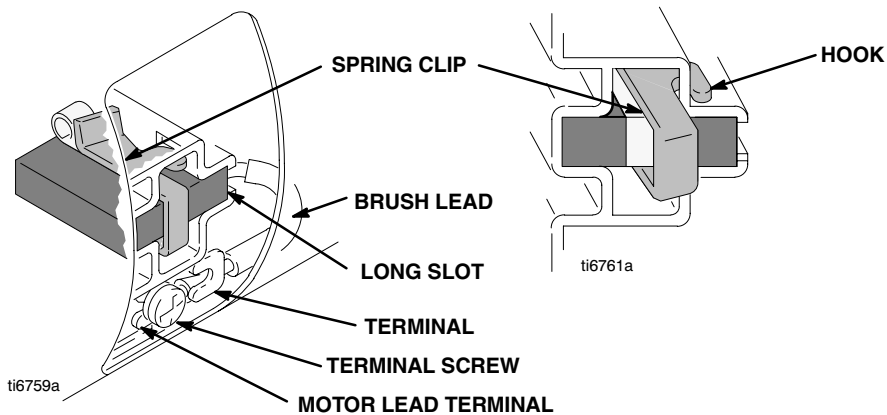

Fig 4
1. Install new brush so lead is in long slot of holder. Slide terminal under terminal screw washer. Ensure motor lead is still connected at screw. Tighten screw. See Fig 4.
3. Install spring clip and push down until its hooks catch short slots in housing. See Fig 4. Incorrect installation may jam clip.